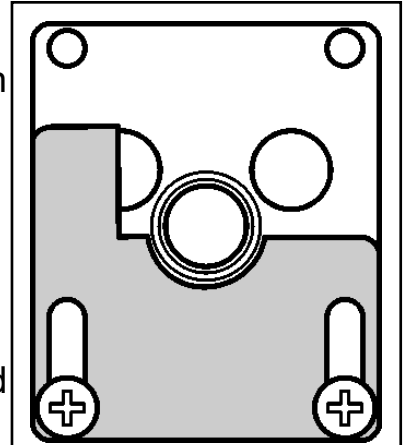

Figure 29. Aeration shutter setting.
1. The aeration shutter is factory set. It is important to ensure that the aeration setting is correct (See figure 29).
2. If the setting is not as shown in figure 29 adjust the aeration setting. To do this loosen the two aeration shutter screws, slide the aeration shutter to the desired position and tighten the screws.